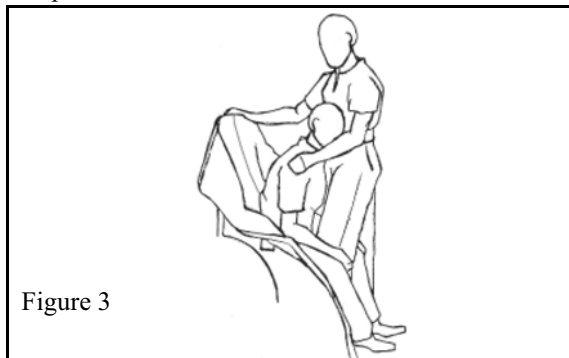

Figure 3
- 2 Ensure that the top centre handle of the sling and the positioning stripe is centered on the resident/patient's back (see Figure 3). Lean resident/patient's back into chair or wheelchair.